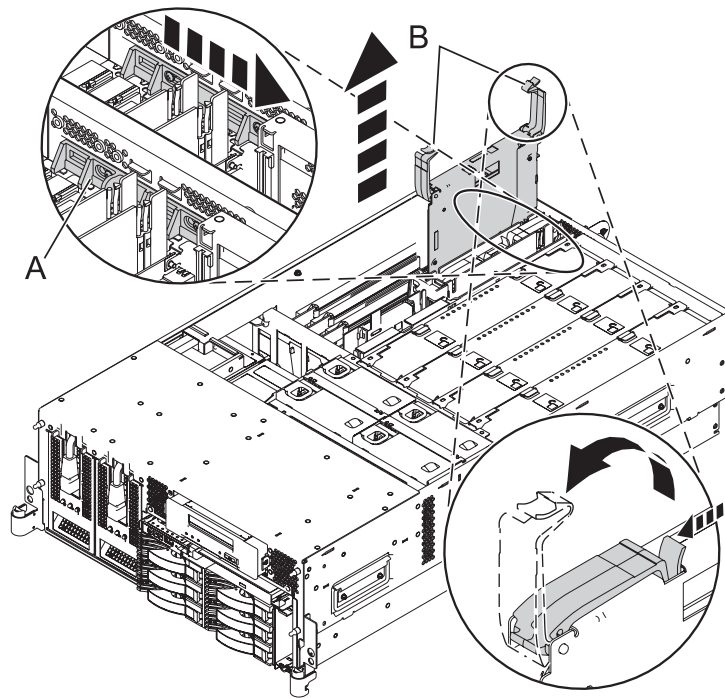
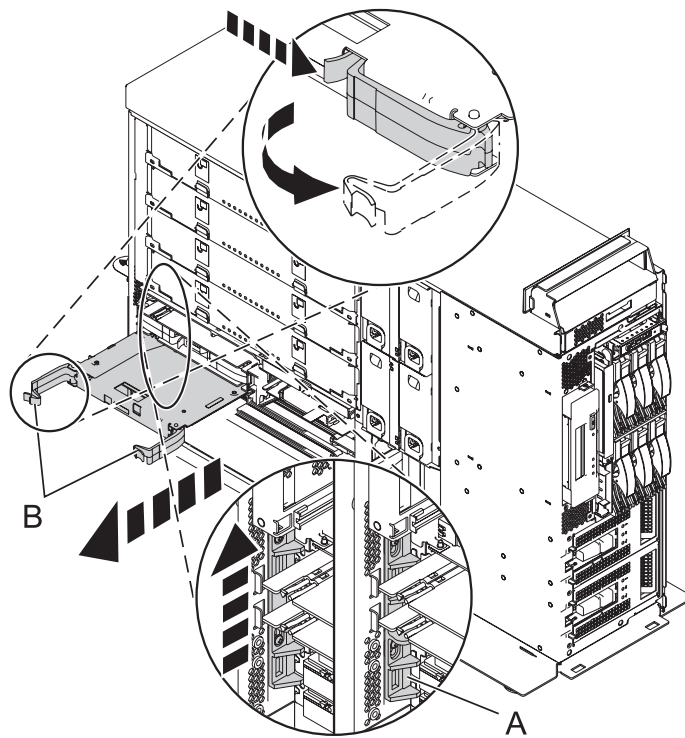

Figure 9. Adapter removal from a rack-mounted system (8204-E8A)
Figure 10. Adapter removal from a stand-alone system (8204-E8A)
- For model 8204-E8A or 9409-M50, see Figure 9 on page 15 or Figure 10 on page 15. Remove the existing adapter assembly by sliding the retainers (A) into the open position. Unlatch the blue locking latches (C) on the adapter assembly by pushing them together and pulling them up into the open position, and then lift the adapter out of the system.